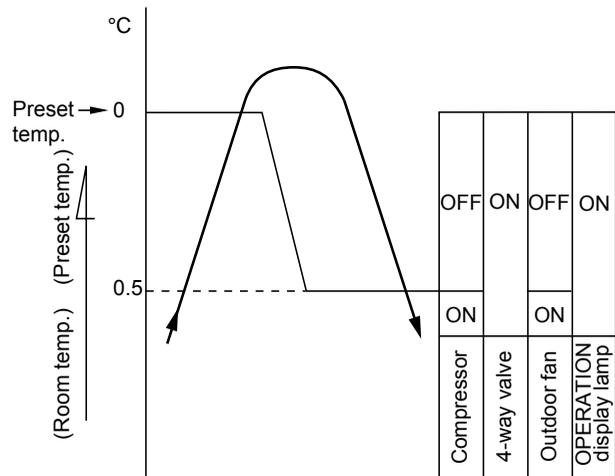

**Fig. 7-2-4**
- (1) The compressor, 4-way valve, outdoor fan and operation display lamp are controlled as shown in Fig. 7-2-4.